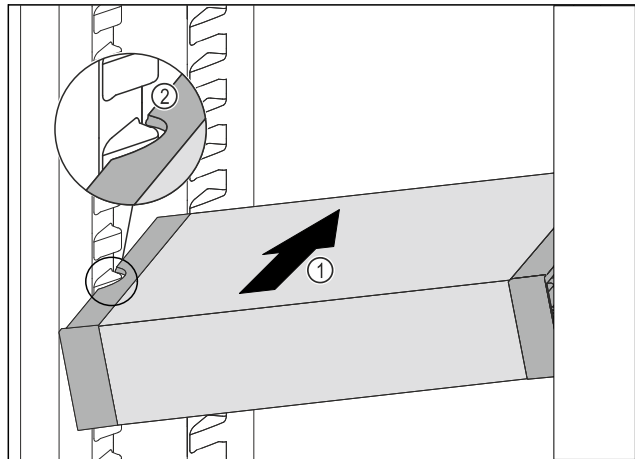

Fig. 142
- ▶ Insert the VarioSafe into the fridge section at an angle Fig. 142 (1) until the recesses in the side Fig. 142 (2) of the VarioSafe are at the level of the support rib in the fridge section.